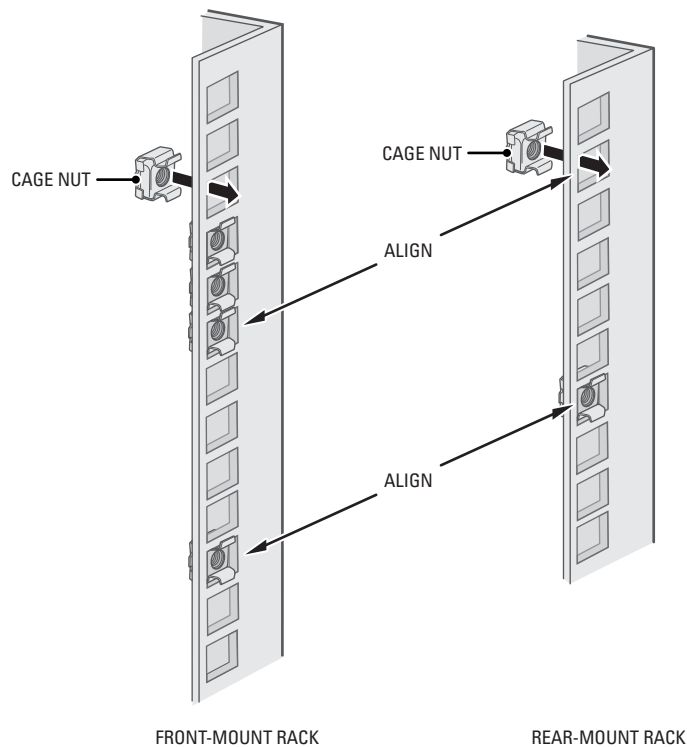

Figure 11. Inserting the Cage Nuts
5. *If you are installing the unit into a square-hole rack:* Insert 14 cage nuts into the square-hole rack as shown in Figure 11. Align the bottom cage nuts on the front racks with the bottom cage nuts on the rear racks. Then align the top cage nuts with the front racks (refer to Figure 11).